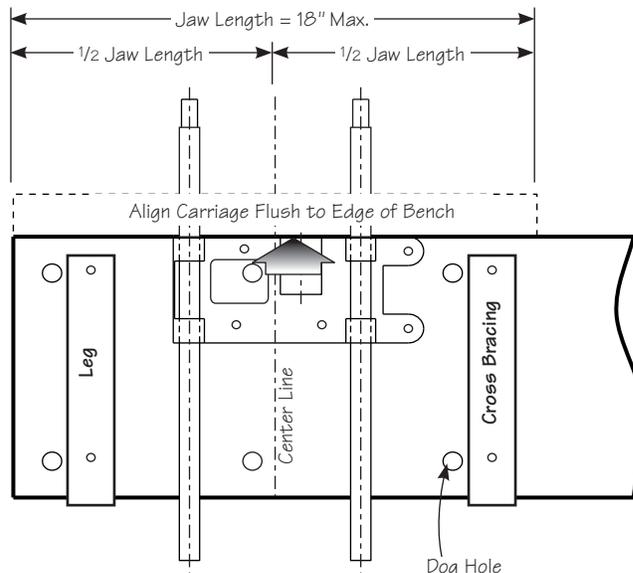

Figure 6: Positioning carriage to determine jaw length.
- With the bench placed upside down, roughly position the vise carriage on the underside of the bench where you would like it to go (see **Figure 6**). It is common to place the vise near a corner so that one end of the jaws will be flush with the end of the bench. This allows for crosscutting a clamped workpiece without interfering with the bench. Check for interference of the carriage mounting holes, the guide rods and the lead screw with any dog holes or the placement of the bench leg. Transfer the center line of the carriage onto the bench to determine the length of the jaws. A good length for the Regular Front Vise (70G08.01) is 12" to 15". For the Large Front Vise (70G08.02), it may be up to 18" long. Racking problems may be experienced if jaws are longer than 18" (see *Vise Racking*).